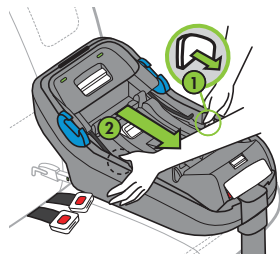

Figure 52
Extend UAS Connectors by pressing and holding both UAS Adjustment Buttons (1), and then pulling the Base toward you (2), as shown in **Figure 52**.